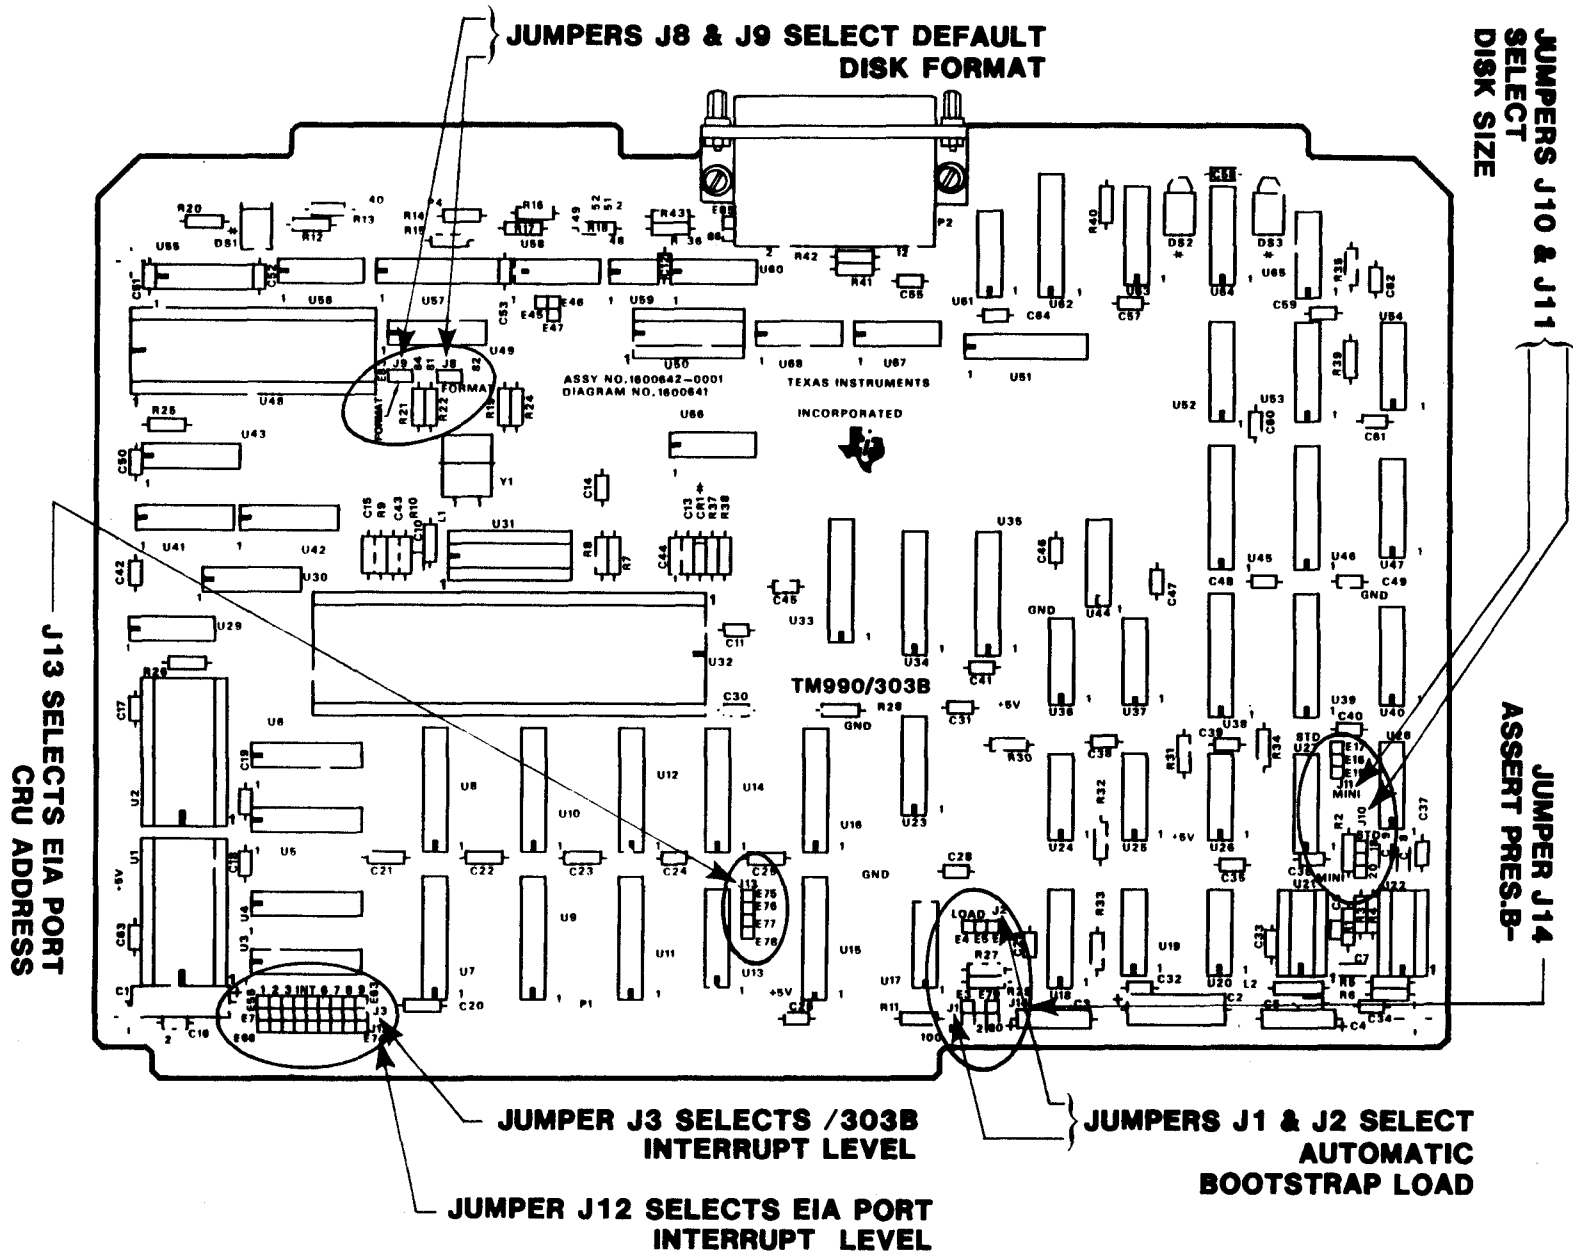

FIGURE 2-1. TM 990/303B JUMPER LOCATIONS
- jumpers at TM 990/303B module (section 2.4, Figure 2-1, Table 2-1),
Module jumper locations are shown in Figure 2-1; module jumper settings are listed in Table 2-1. Note that jumpers J4, J5, J6, and J7 are not used.
- Jumpers on TM 990/303B module (section 2.4, Figure 2-1, Table 2-1),